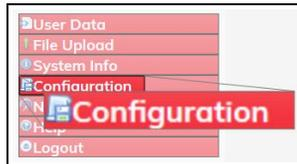

Figure 269: Configuration link
4. On the **Menu** list, click the **Configuration** link. Figure 269